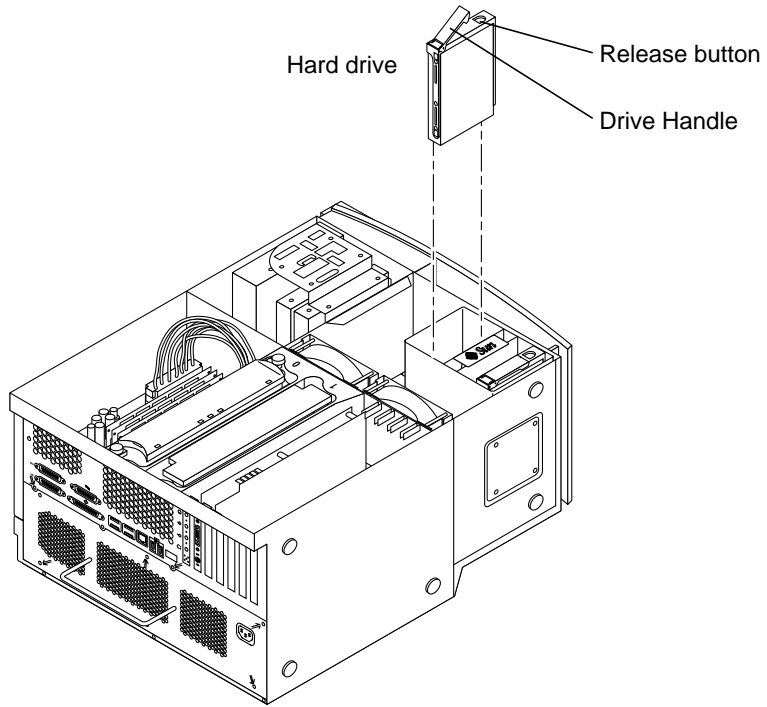

FIGURE 11 Installing an Additional Hard Drive
2. **Locate the empty hard drive bay in the hard drive bracket (see FIGURE 11).**